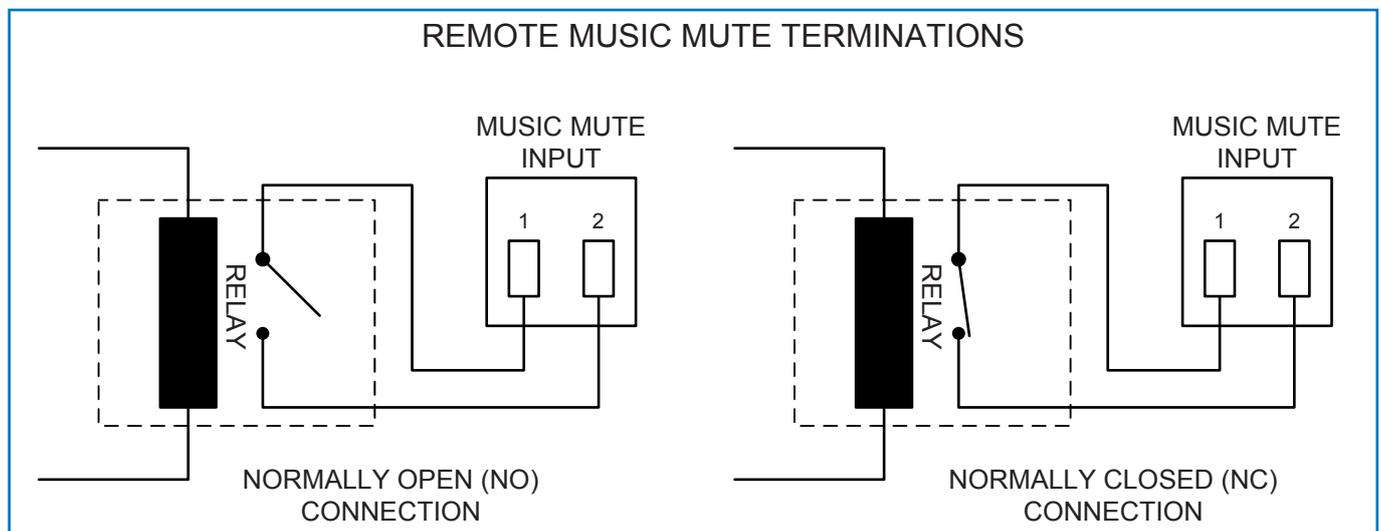

fig.6: Remote Music Mute
Activation of the Music Mute is often via a relay mounted close to the MPA Series amplifier; powered by the fire alarm control panel. Other arrangements may exist depending on the design of the fire control system and the fire alarm installation company should be consulted when making the connection. The MPA Series amplifiers will mute on either a contact closure at the Music Mute input (NO) or an open-circuit (NC). Selection of NO or NC operation is made with internal jumper J14. NO is the factory default. See fig.6.